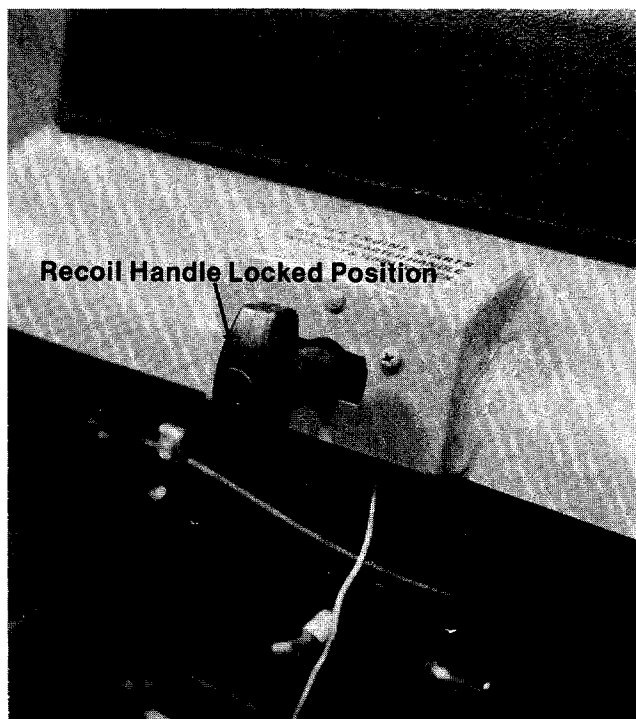

FIGURE 11. RECOIL HANDLE
6. Turn the ignition key to the "ON" position. Twist the recoil starter handle until it is free and pull it with a quick steady motion. After the engine starts, return the recoil starter handle. Twist it until it locks. See figures 11 and 12.